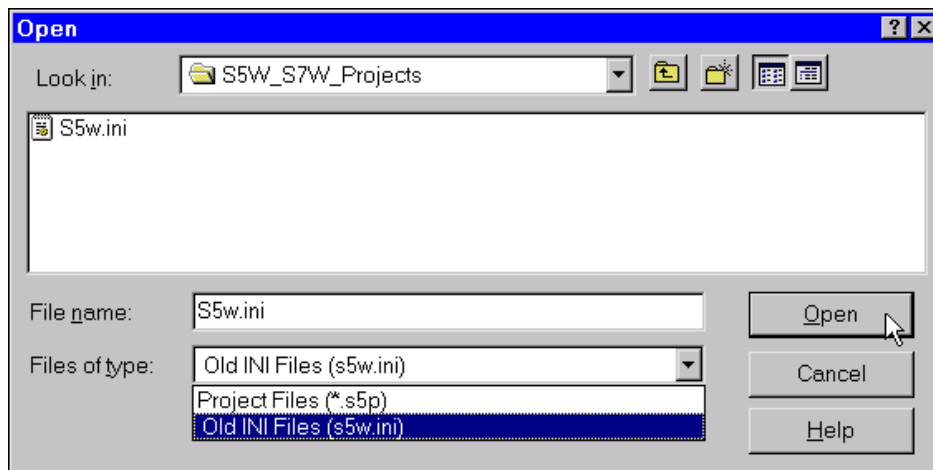

Figure 3-4 Drop down list box **Files of type** (Old INI Files (s5w.ini))
- ◆ If a S7 Block is entered into an existing S5 project or an existing S5 Block is converted into an S7 Block the program file (*.s5) is saved in its new format. Was the file original saved in the old S5 format a warning (figure 3-4) is displayed that the program file can not be opened with an older *S5 for Windows* version (prior 4.0).